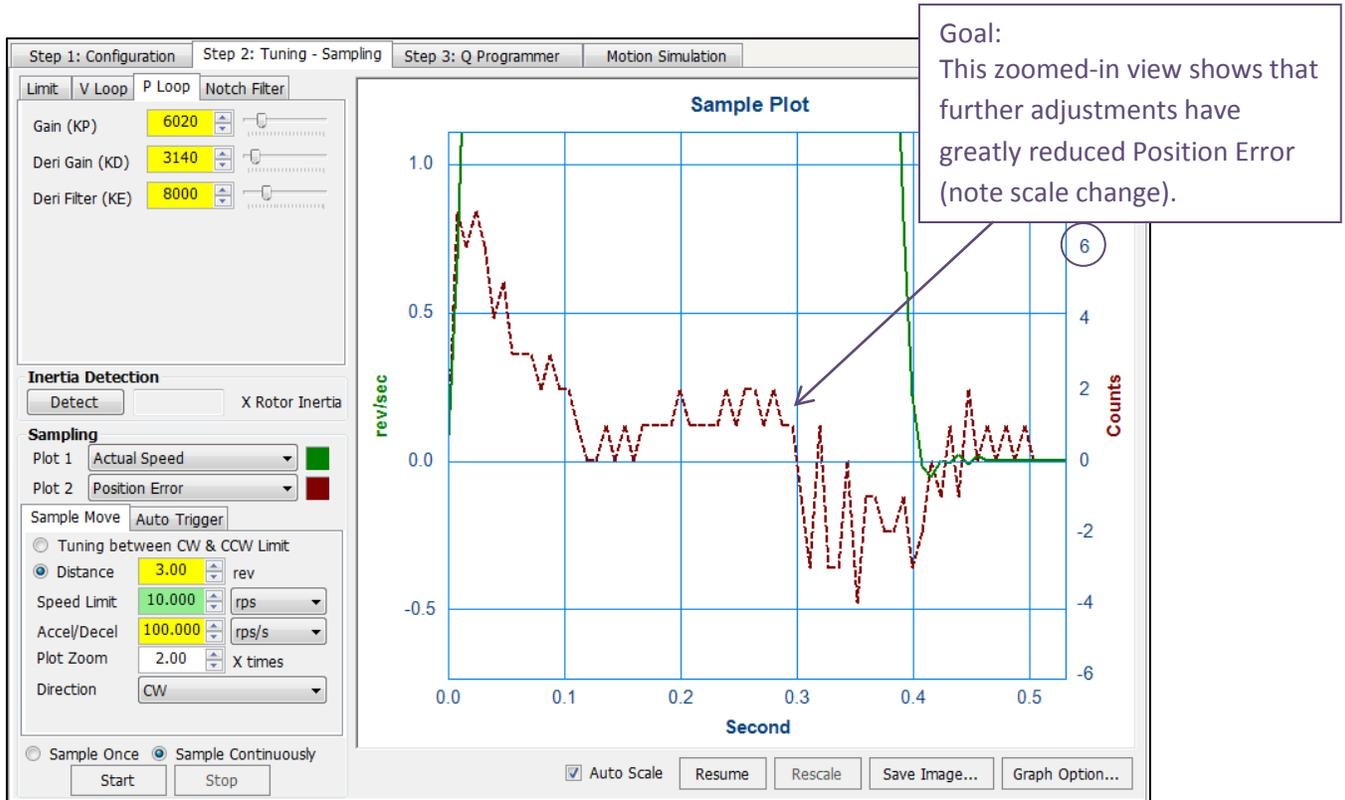

Fig. 5b: Zoomed in view of Position Error plot, showing range of less than ± 10 encoder counts
- Zoom in with cursor to view position error (see Fig. 5b)